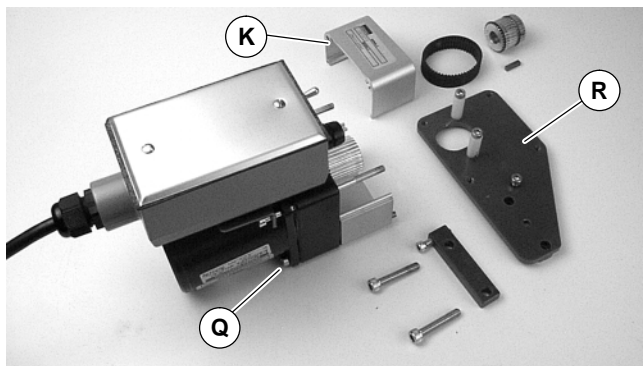

Figure 4
3. Loosen four (4) screws (Q of Figure 4). Detach mounting bracket (R).